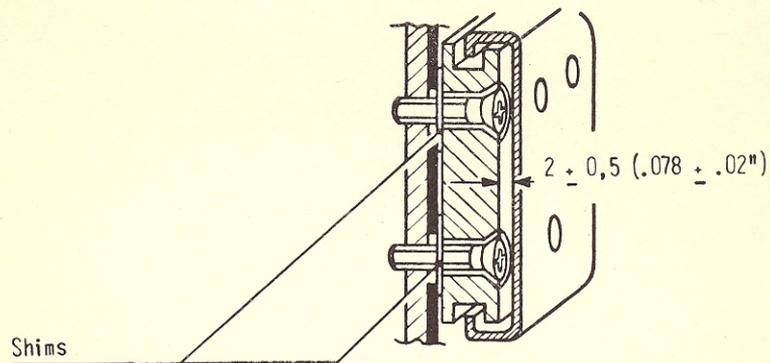

Fig. 1
Provision is made in the dashboard and in the sides of the console for the installation of radio and speakers respectively (see fig. 1).
Since the openings in the dashboard sheet metal are covered on both sides (veneering and plastic material) it may be difficult to trace their location; to do so, try tapping or, better, use the suitable template as shown on fig. 1.
- 1) Check that there is a clearance of 1 mm (.04") minimum and 2 mm (.08") maximum between lock dovetail and striker faces as shown on fig. 1.
- 2) If the clearance is not as specified, loosen the three striker attaching screws, add or remove shims of proper thickness (0.5, 1, 2 mm) taking care to keep the striker parallel with the dovetail. See fig. 1.